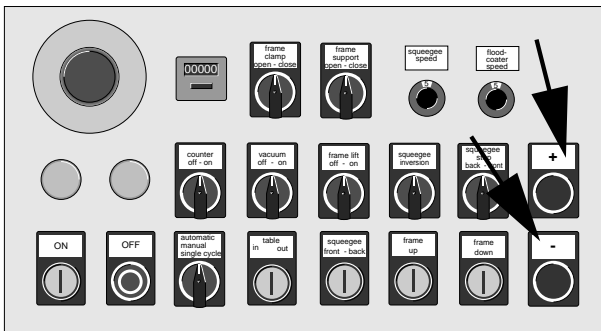

Figure 5-2. Control panel
- \* Activate the foot switch and push  or  at the same time (Figure 5-2) to change the pre-vacuum time in steps of 1/10 s. Pushing both buttons at the same time will reset the time to zero.